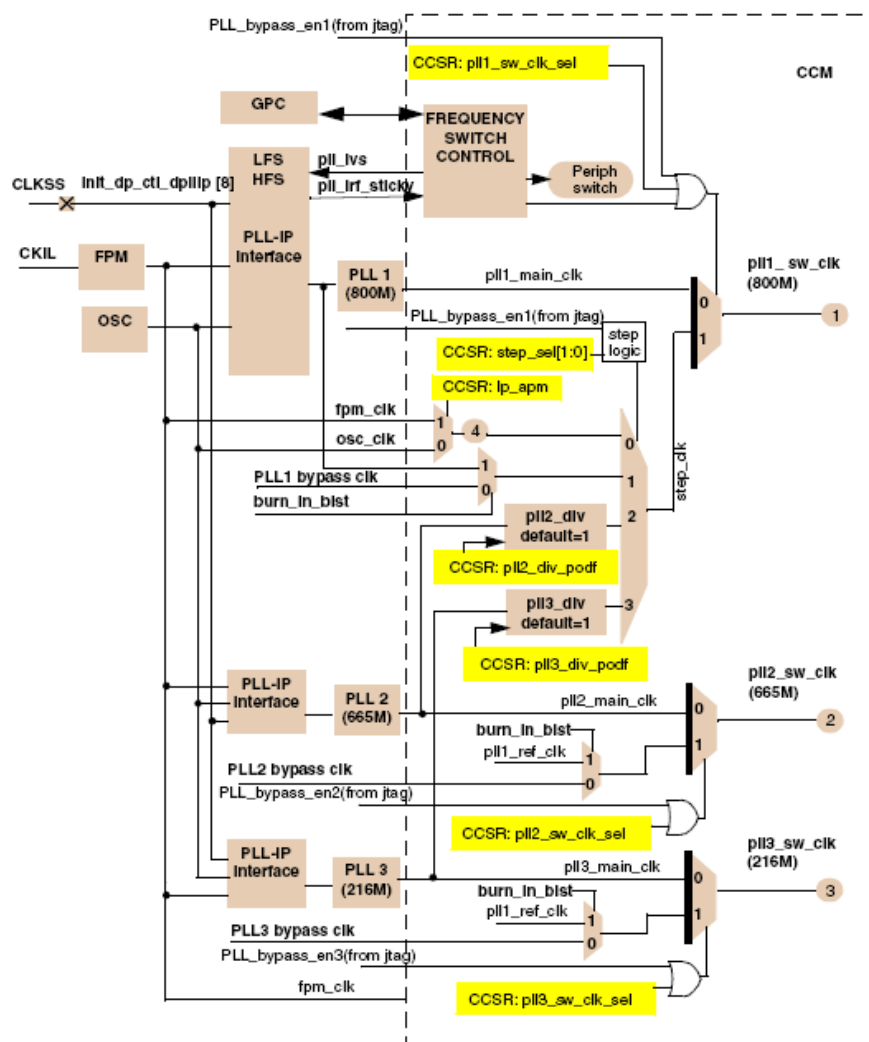

Figure 2. CCM Clock Switcher Module Architecture
Figure 2 shows the CCM clock switcher module architecture.
As seen in Figure 2, the clock-source for each switcher clock (pll1\_sw\_clk, pll2\_sw\_clk, and pll3\_sw\_clk) is described as follows:
- pll1\_main\_clk—pll1\_main\_clk is the clock output of DPLL1 (shown as PLL1 in Figure 2).